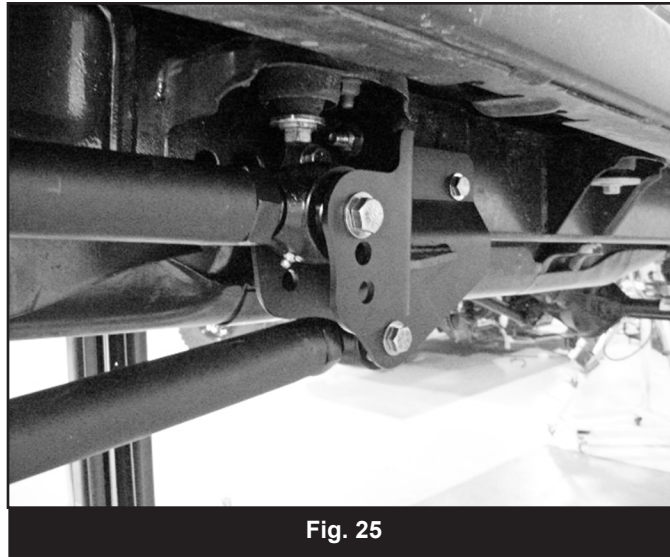

Fig. 25
27. Install the UCAs to the axle with the OE hardware. Attach the adjustable end to the frame bracket with a 9/16" x 4" bolt, washers, and prevailing torque nuts (BP 762). Leave hardware loose at this time (Fig 25).